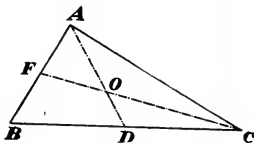

FIG. 12.
**101.** To find the center of gravity of a triangle, as  $ABC$ , Fig. 12: